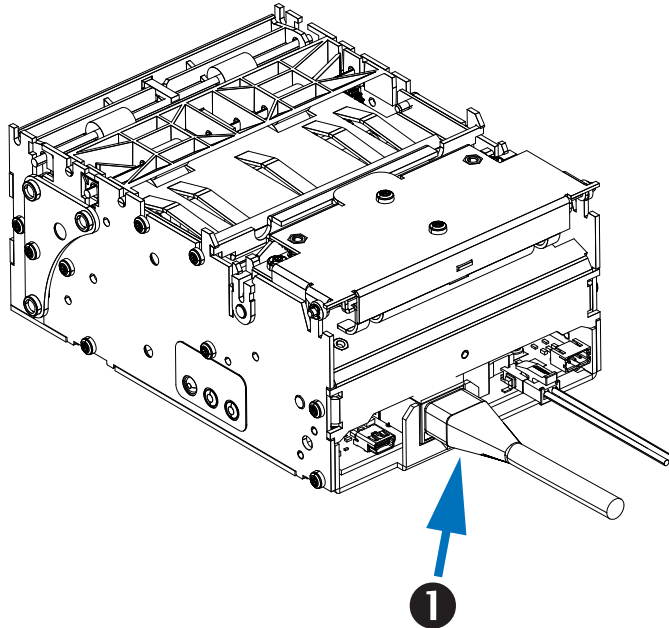

Figure 8 • Ethernet Connection
Refer to Figure 8. The USB/Ethernet KR403 includes an RJ45 Ethernet connection resident on the main logic board ❶. It is compatible with CAT5, CAT5e, and CAT6 cables. Cables are not supplied with the printer, the integrator should supply an 802.3 compliant cable.